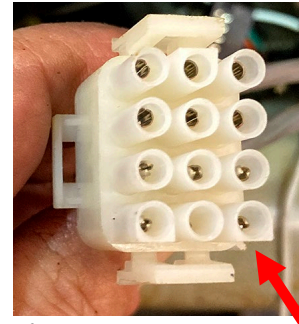

Figure 57
60. Reattach the gray 12-pin harness to the bottom plug on the rear of the component box. Pin 1 (denoted by the tab) is in the lower right corner (see Figures 57 & 58).